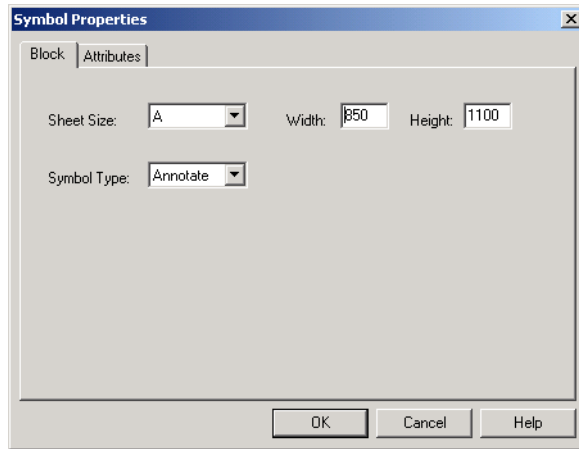

Figure 5-13. Changing the Sheet Size Using the Symbol Properties Dialog Box
5. **Double-click the symbol window.** The Symbol Properties dialog box appears, as shown in Figure 5-13.